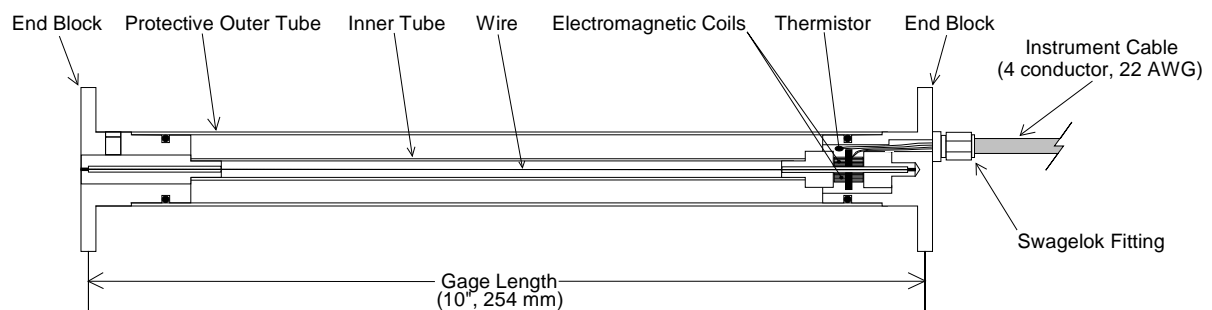

Figure 3 - Model VCE-4210 Vibrating Wire Strain Gage
The Model 4210 Vibrating Wire Strain Gage is designed for embedment in large aggregate concrete (greater than $\frac{3}{4}$ inch). The standard gage length for the Model 4210 is 10 inches; other gage lengths are available (Model 4212 = 12 inches, Model 4214 = 14 inches, etc.). See Figure 3.
- Lightning arrestor boards and enclosures are available from Geokon that install at the exit point of the instrument cable from the structure being monitored. The enclosure has a removable top so, in the event the protection board (LAB-3) is damaged, the user may service the components (or replace the board). A connection is made between this enclosure and earth ground to facilitate the passing of transients away from the gage. See Figure 3. Consult the factory for additional information on these or alternate lightning protection schemes.